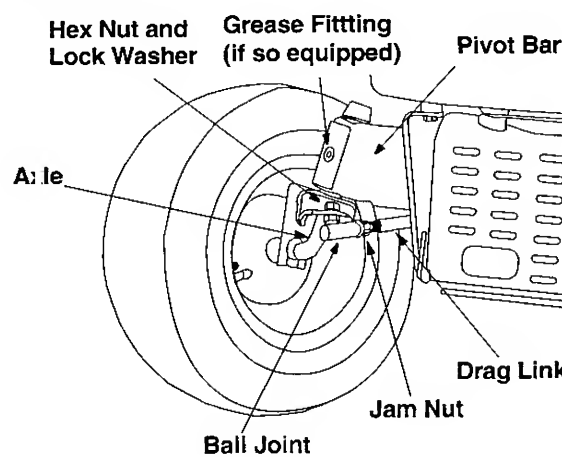

Figure 11
- Loosen the jam nut found on the drag link at the rear of the ball joint. See Figure 11.
- Remove the hex nut and lock washer on the top of ball joint. See Figure 11.